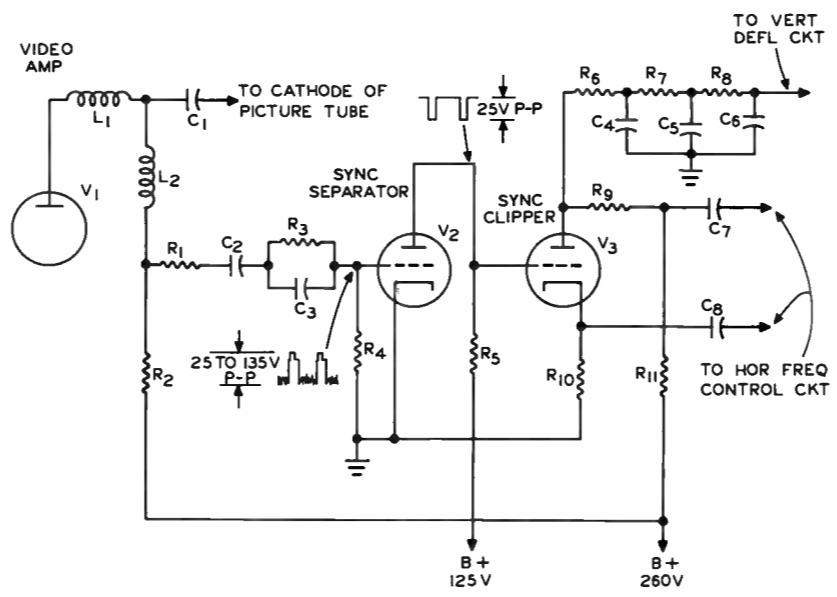

FIGURE 2
2. In the circuit of Figure 2, the V_3 stage is operated as a
2. In the circuit of Figure 2, the V_3 stage is operated as a **sync phase inverter**.
In the circuit of Figure 2, resistor R_1 (A) allows only negative going sync pulses to be applied to the grid of V_2 . (B) prevents shunting the V_1 plate circuit with the input capacitance of V_2 . (C) limits the plate current of V_1 between pulses. (D) prevents the sync pulses from being applied to the cathode of the picture tube.